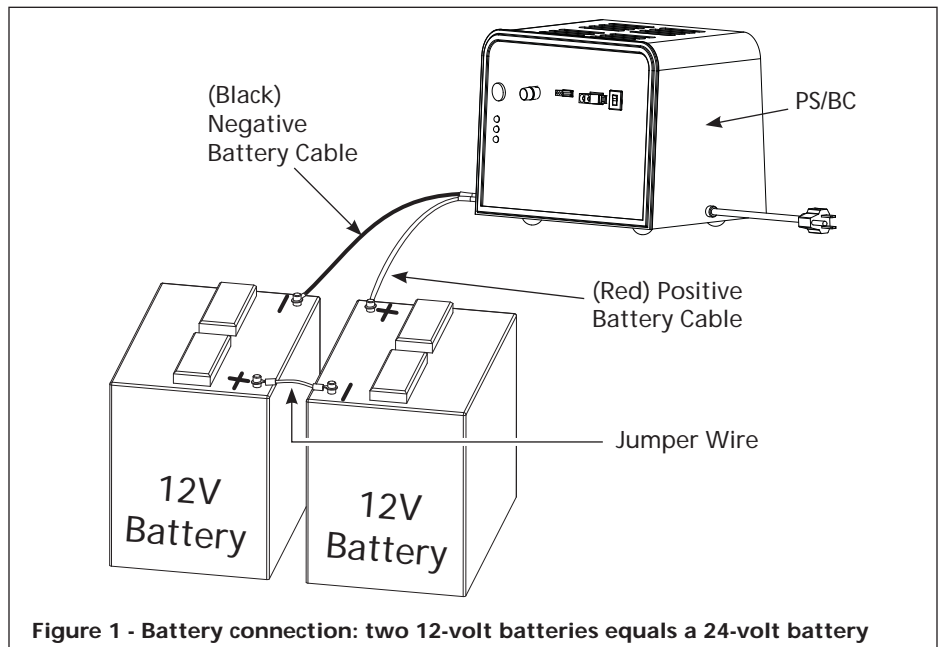

Figure 1 - Battery connection: two 12-volt batteries equals a 24-volt battery
3. Connect jumper wire between batteries as shown on Figure 1.
4. Connect power wires from PS/BC to battery terminals as shown in Figure 1. Connect the red wire to the unconnected positive terminal of battery A and then connect the black wire to the unconnected negative terminal of battery B. The yellow light should now be on.